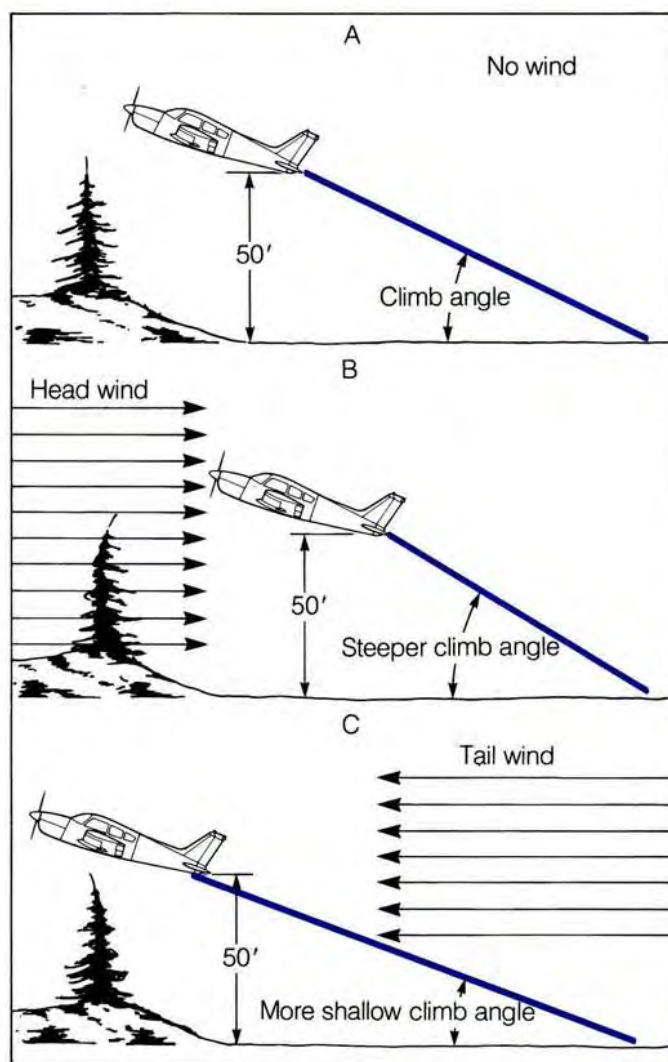

Figure 2-36 The Effect of Wind on an Obstacle Clearance Climb
4. Results in better obstacle clearance owing both to a shorter run and a steeper angle of climb (Fig. 2-36).